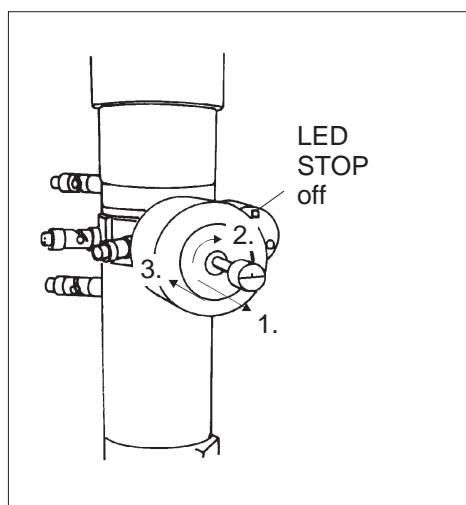

Fig. 4-3c: Preevacuation concluded
- **Pull specimen rod back to the stop and turn it carefully through further 90° (Fig. 4-3c).**